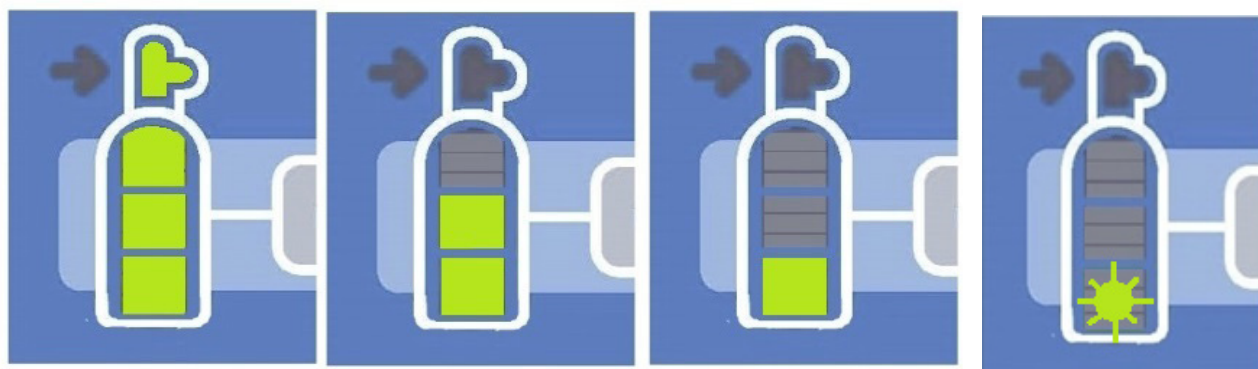

FIGURE 13: N₂O GAUGE INDICATORS
- Meaning of gas gauge indicators seen in Figure 13